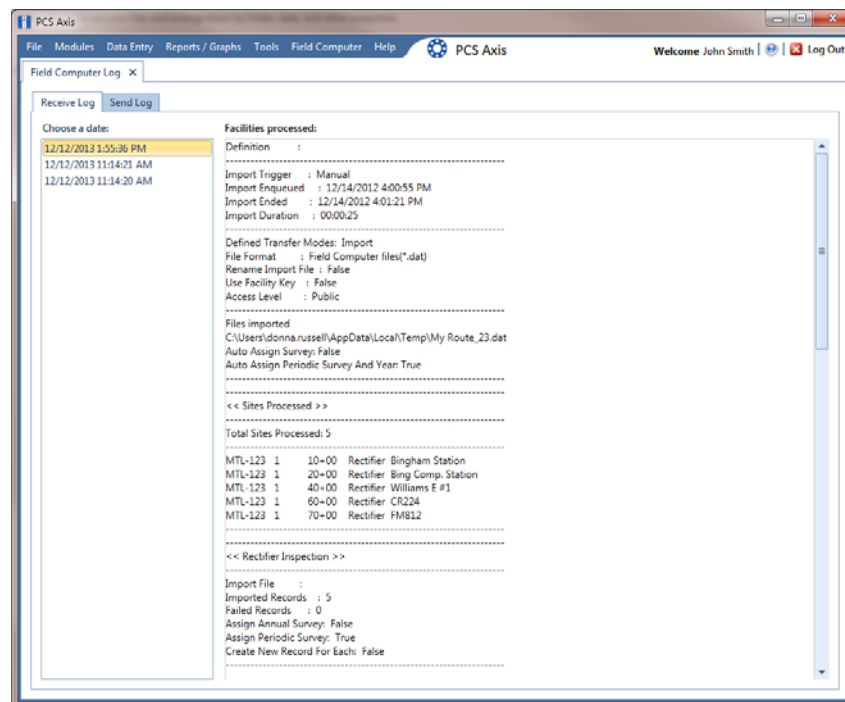

Figure 13-41. Field Computer Log / Receive Log
- 1 Click **Field Computer** > **Log** to open the *Field Computer Log* window (Figure 13-41).